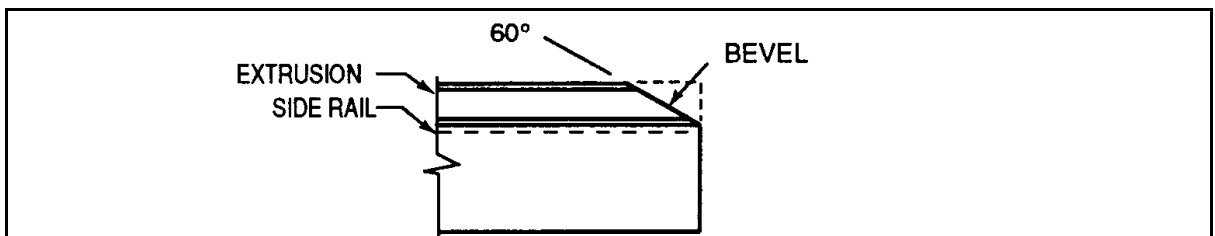

Figure G.53
Step 4. Bevel the "cut" end of the chain guide 60° (see Figure G.53).